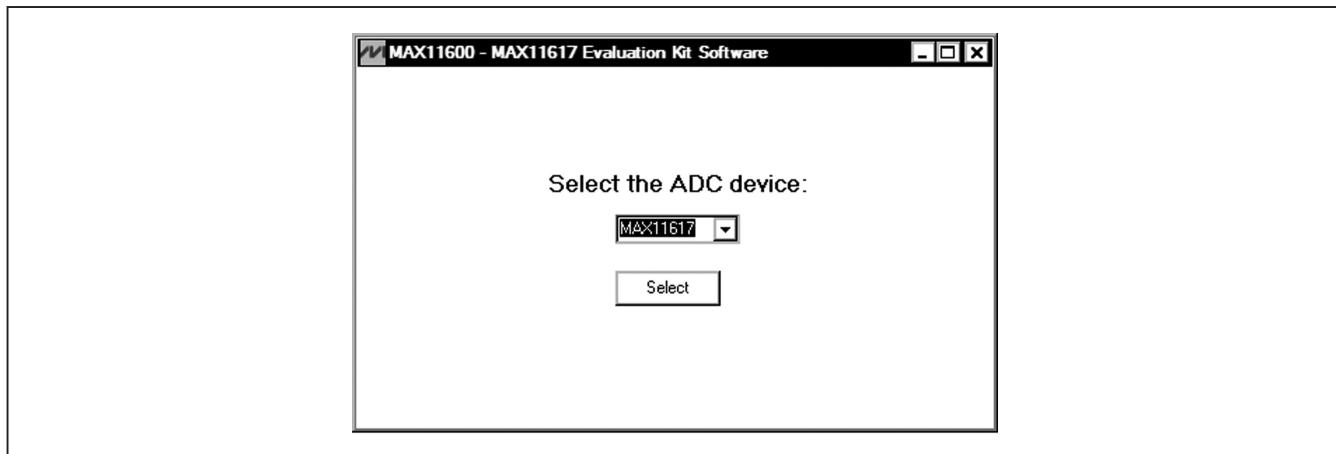
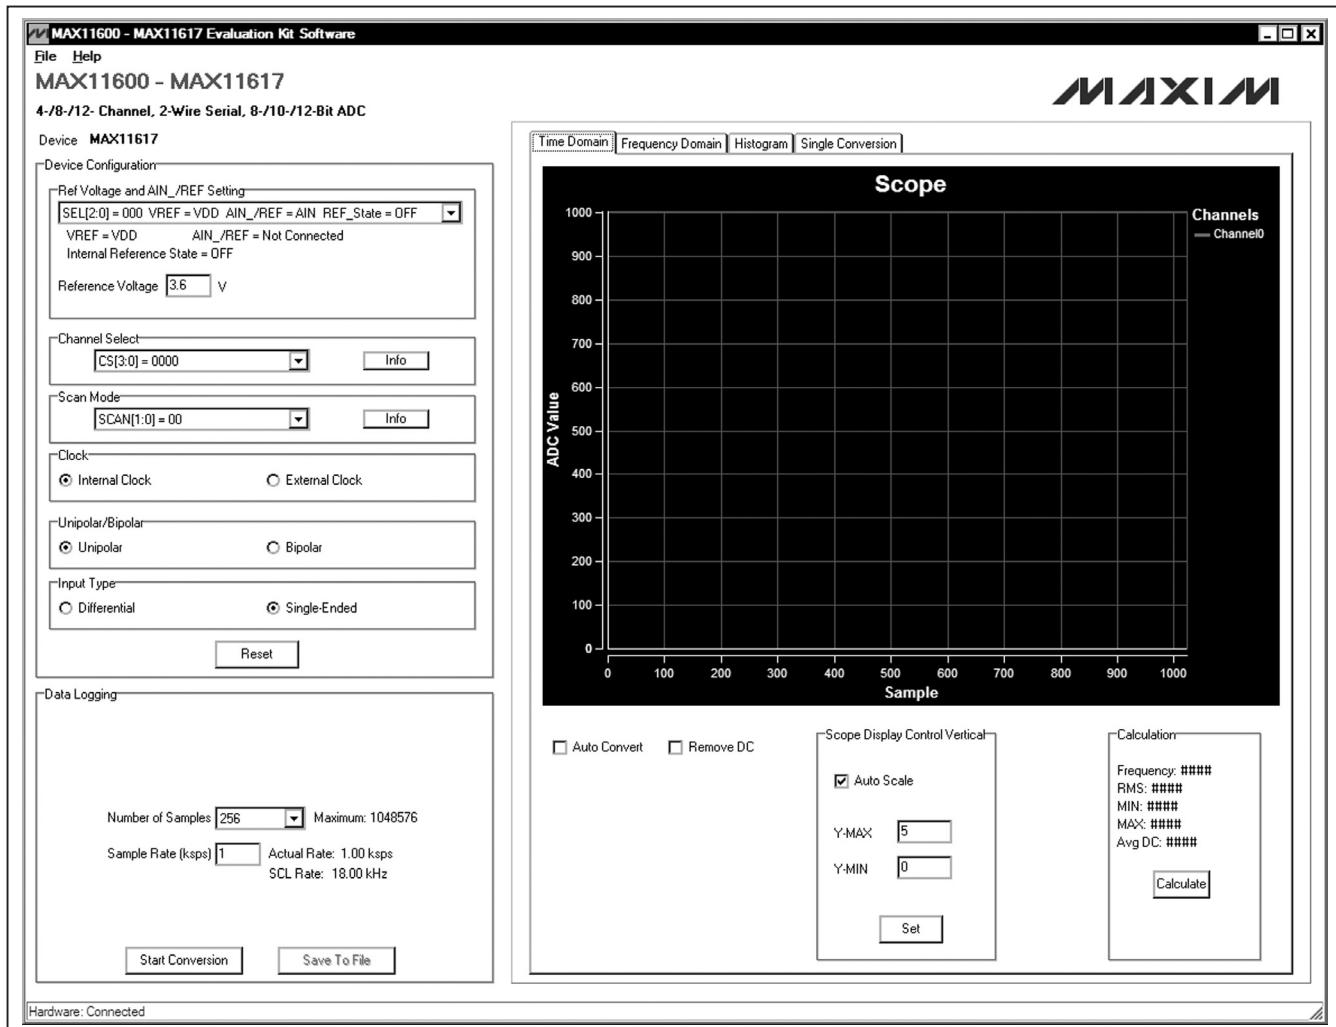
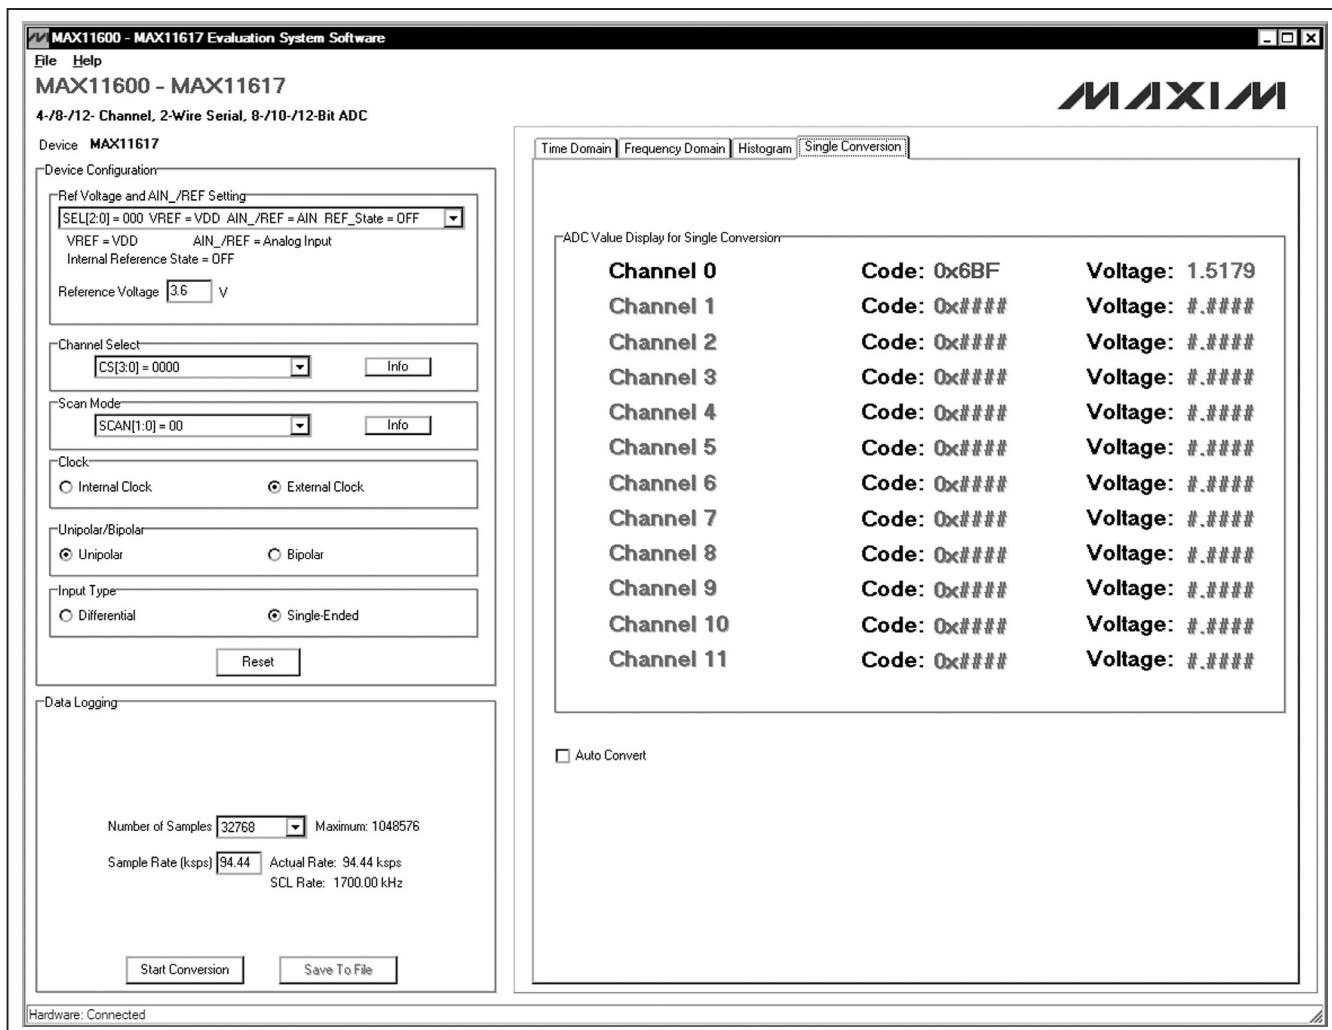

Figure 1. MAX11600–MAX11617 EV System Software Device Selection Window
Figure 2. MAX11600–MAX11617 EV System Software Main Window
Figure 8. Single Conversion Tab
- 11) Start the MAX11600–MAX11617 EV system software by opening its icon in the **Start | Programs** menu. The EV system software device-selection window appears, as shown in Figure 1. Select the appropriate device from the **Select the ADC device** drop-down list. The EV system software main window appears, as shown in Figure 2.
The MAX11600–MAX11617 EV system software supports all the MAX11600–MAX11617 ADC devices. When the EV system software starts up, select the appropriate device from the **Select the ADC device** drop-down list shown in Figure 1. Press the **Select** button to bring up the main software window.
The main window of the evaluation software (Figure 2) contains a **Device Configuration** group box, a **Data Logging** group box, and four tab sheets to display the sampled data.
The **ADC Value Display for Single Conversion** group box in the **Single Conversion** tab sheet (Figure 8) displays the **ADC Codes** and the calculated **Voltage** values for a single sample of all the channels that associate with the selected scan mode. Pressing the **Start Conversion** button in the **Data Logging** group box shown in Figure 2 updates the status of the **ADC Value Display for Single Conversion** group box.